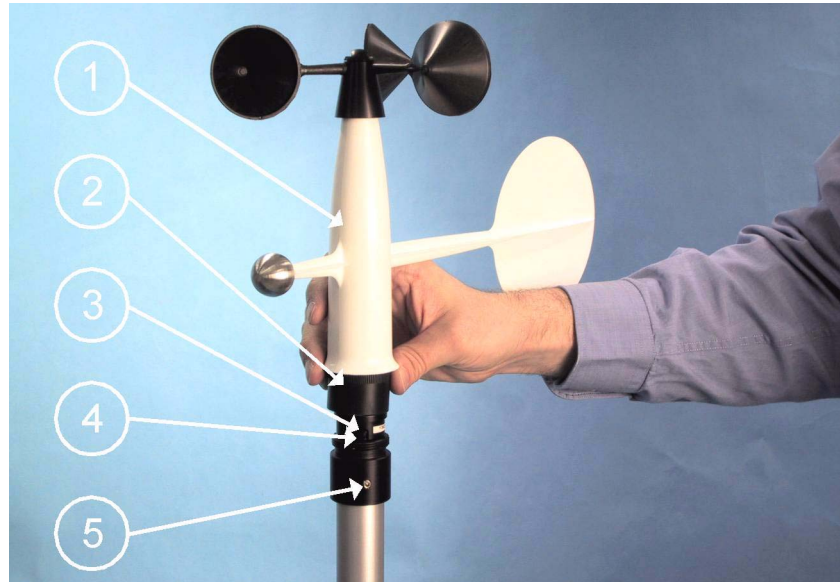

Figure 91 Wind Sensor Attachment
6. For attachment of the wind sensor (number 1 in Figure 91 on page 101), the mounting piece has already been tightened with the small hex screw (5) on the top of the wind mast. Guide the wind sensor cable through the telescopic mast (if it is not already done) and connect the cable to the sensor. To connect the sensor to the wind mast, align the slot (3) on the bottom of the sensor with the metal